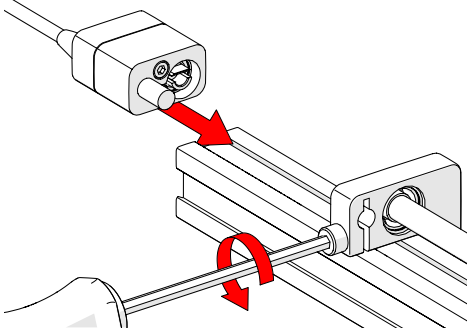

Fig. 68 - Loosen and slide post in place
1. To install the index encoder, loosen the clamp screw on the encoder with the supplied 3 mm hex driver (Fig. 68).